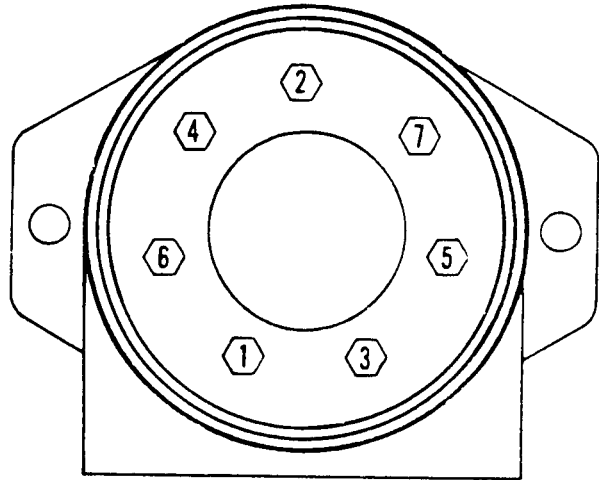

Figure 9-3. Capscrew Tightening Sequence
m. Secure end cap in position with seal washers (15) and capscrews (16); tighten screws fingertight only at this time.
n. Torque capscrews in three phases, in accordance with following procedure with reference to the Capscrew Tightening Sequence (figure 9-3).